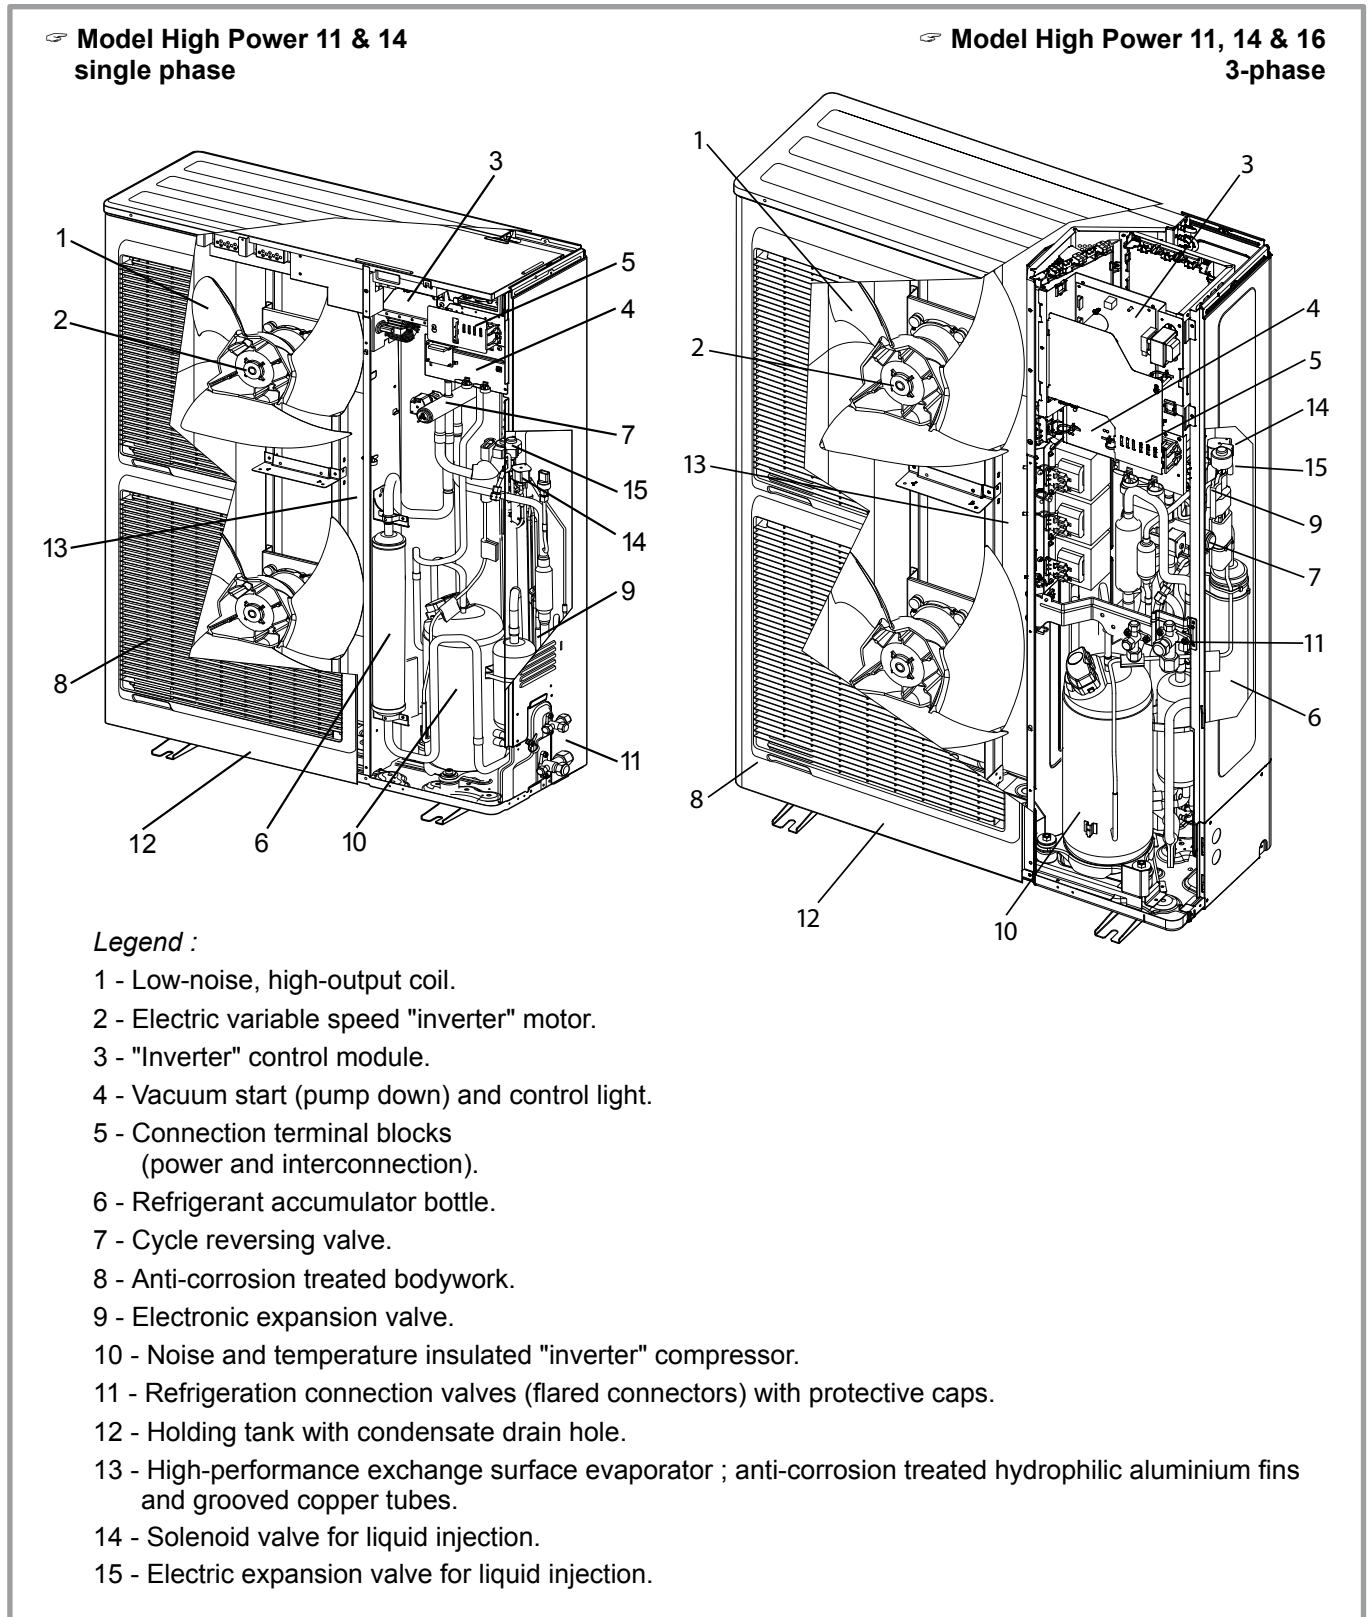

figure 6 - Outdoor unit components
- In the evaporator (ref. **13**, figure 6, page 9) : The energy is taken from the surrounding air and is transmitted to the refrigerant. Because it has a low boiling point, it changes from the liquid state to the vapour state, even in cold weather (down to $-15\text{ }^{\circ}\text{C}$ outdoor temperature).
- In the compressor (ref. **10**, figure 6, page 9) : The vaporised refrigerant brought to high pressure and takes on more calories.
- In the expansion valve (ref. **9**, figure 6, page 9) : The liquefied refrigerant is brought back to low pressure and returns to its initial temperature and pressure.